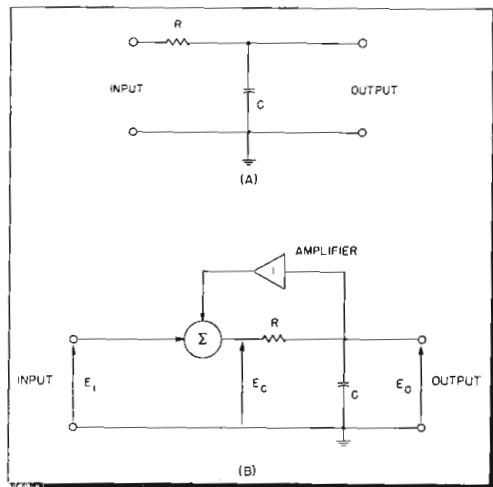

Fig. 7: (A) Basic RC integrator circuit and (B) integrator with amp and summing circuit
The operation of this circuit can be explained briefly as follows: The simple RC circuit of Fig. 7(A) would function as an integrator if its time constant could be made long enough. This cannot be done in practice since for accurate correlation a time constant of at least 200 seconds is required, whereas the maximum RC product realizable economically is about five seconds. The effect of having too small a time constant can be thought of in the following manner: As positive pulses are integrated, the voltage across the capacitor increases and effectively subtracts from the true voltage of the pulses. In addition, as the voltage across the capaci-
tor increases the capacitor tends to discharge through the resistor  $R$  and the source resistance. These effects could be removed if the voltage level of the pulses at the input terminal of the integrator could be raised by the same amount as the output voltage across the capacitor. Then the effective voltage across resistor  $R$  would be the voltage of the input pulses, as it should be. This can be done with a unity gain amplifier and a summing circuit as indicated in Fig. 7(B). Since pulses are being integrated this summing can be effectively accomplished by using a diode clamping circuit. The RC time constant is entirely adequate to integrate accurately one individual pulse which averages only 200 microseconds in length. When the pulse ends, the clamping circuit makes  $E_c$  equal to  $E_o$ . This raises the input voltage level by the required amount.